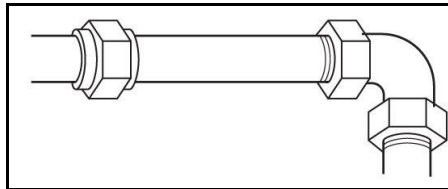

Figure 4
- The rigid pipe connection requires a combination of pipe fittings to obtain an in-line connection to the range. The rigid pipe must be level with the range connection. All strains must be removed from the supply and fuel lines so range will be level and in line. (See Figure 4)